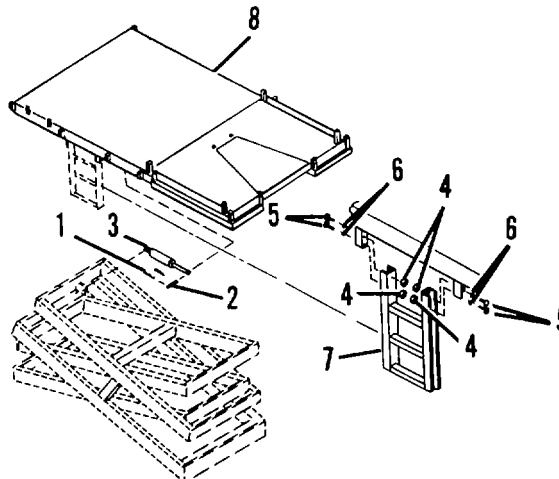

Figure 4-33.3. Platform Assembly.
(16) Position ladder (7, Figure 4-33.3) on platform (8) and secure with four capscrews (5), washers (6) and nuts (4).